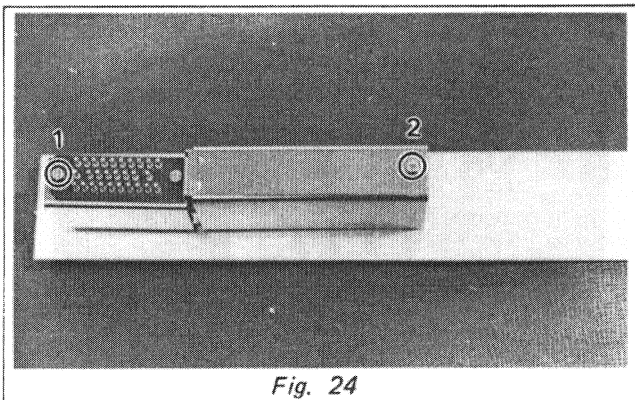

Fig. 24
- Remove screws (1) and (2) as shown in Fig. 24, then take off the connector cover.